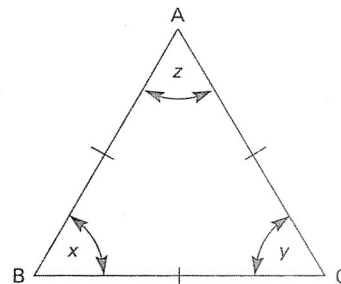

Figure 13
- e) An **equilateral** triangle, as shown in Figure 13, has three sides that are equal in length (AB, BC and CA) and three angles of equal size ( $x$ ,  $y$  and  $z$ ). The angles are all  $60^\circ$  ( $180 \div 3 = 60$ ). A single line (sometimes a double line) is drawn through the three sides to show they are equal.